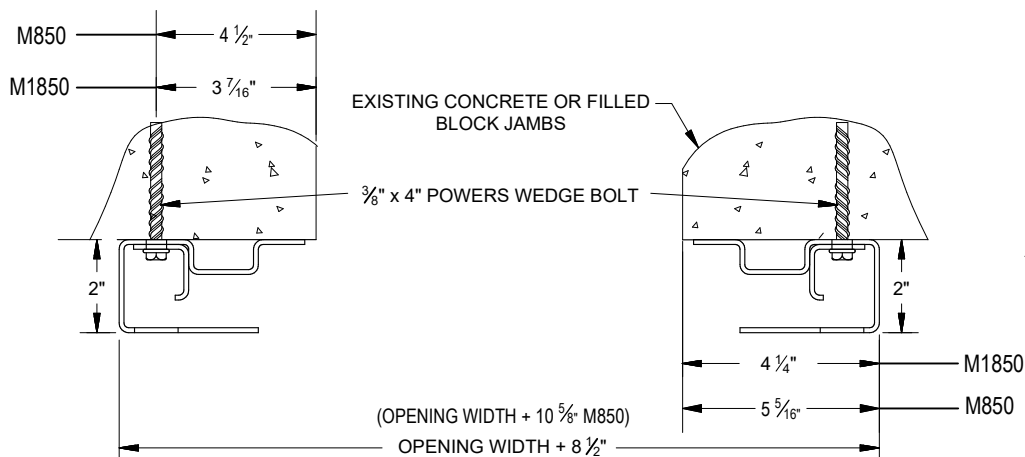

FIGURE 8:
- **MASONRY JAMBS** $\frac{3}{8}$ x 4" Wedge Bolt + at inside of guide. This mounting option for models 1850 & 850 applications to Masonry & CMU. SEE PAGE 9, FIGURE 8